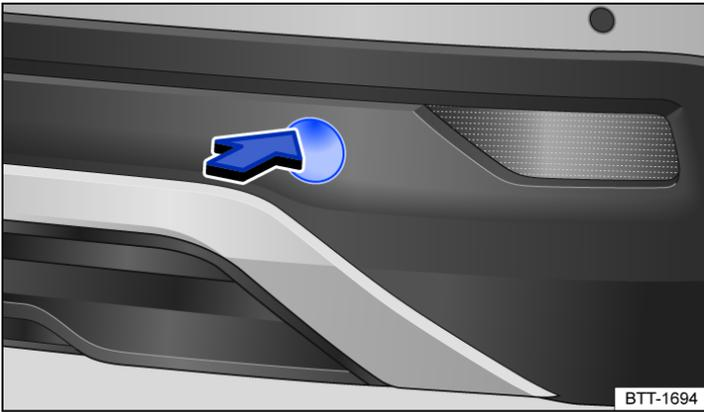

Fig. 1 In the rear bumper on the right: screwing in the towing eye: removing the cover.
- Push the upper part of the cover in the direction of the arrow to release the cover → *Fig. 1*.